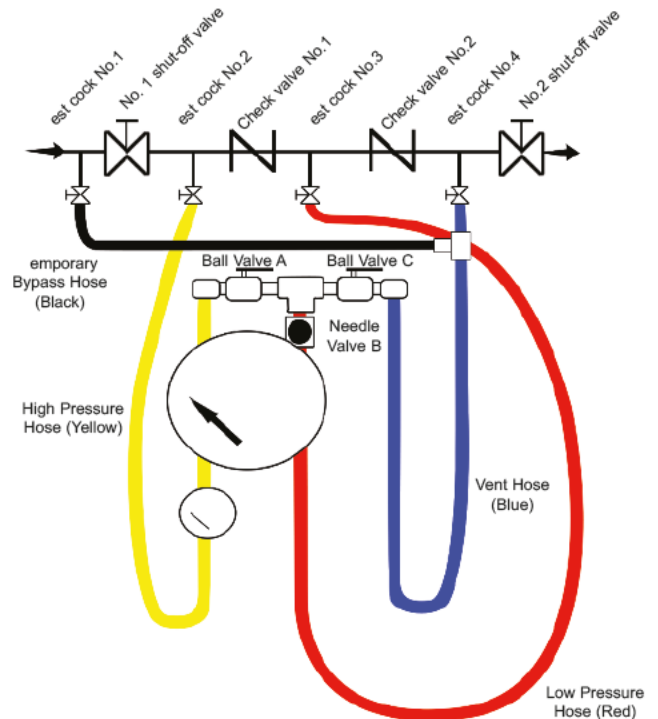

Figure 3 - Reduced Pressure Principle Backflow Preventer
**Step 2 - Refer to Figure 3**